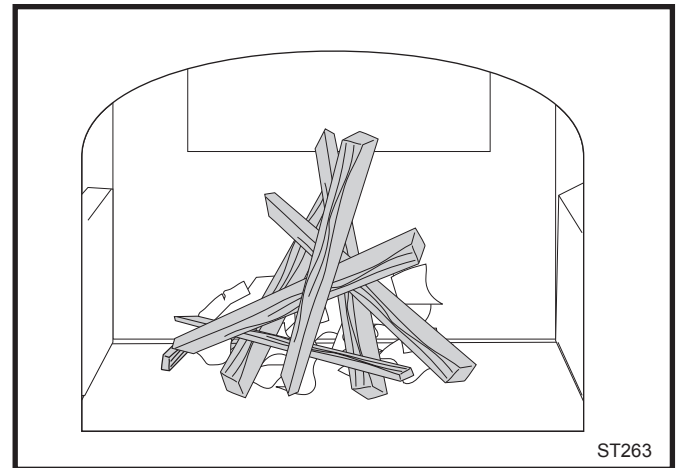

Fig. 39 Start the fire with newspaper and dry kindling.
2. Place several sheets of crumpled newspaper in the stove. Do NOT use glossy advertisements or colored paper, as they can poison the catalyst. Place on the paper six or eight pieces of dry kindling split to a finger-width size, and on the kindling lay two or three larger sticks of split dry wood approximately 1-2" (25-50mm) in diameter. (Fig. 39)